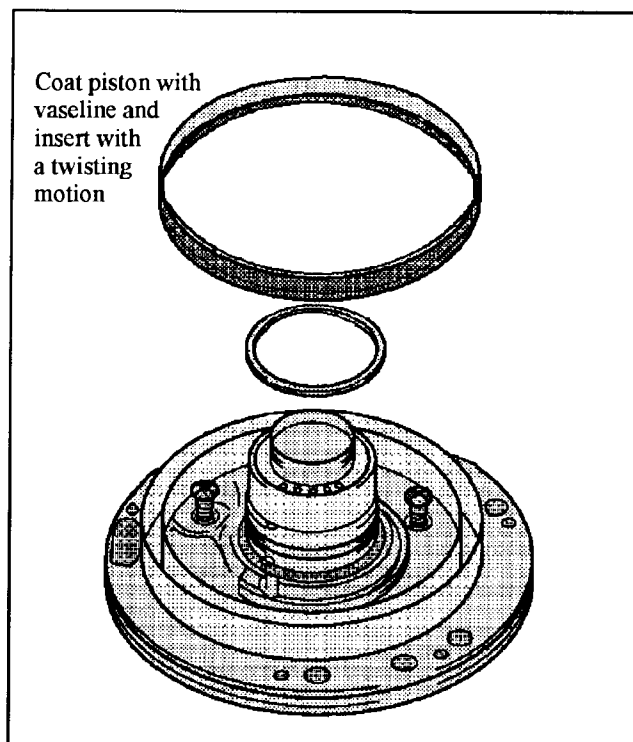

Figure 123
3. Hand thread the 5 #30 Torx. bolts and hand tighten. When the bolts are snug, torque the bolts to 7 ft.lb. (See Figure 123).
4. Coat the vulcanized B2 piston with a small amount of vaseline or assembly lube and insert into the pump stator with a twisting motion (See Figure 123).